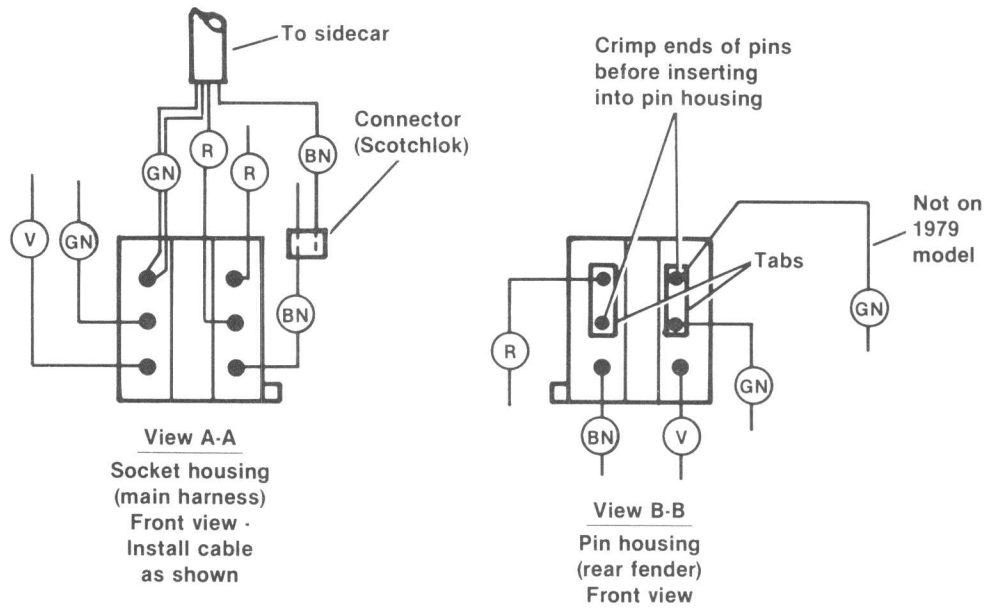

Figure 2-5. FLH Rear Light Connector with Sidecar Harness Connected
gain access to this connector, the seat and the battery must be removed. The connector is located under the seat next to the battery. Note that on 1984 models, only one pin terminal and commoning tab must be installed in the pin housing. Figure 2-5 shows the connector after the sidecar harness has been connected.
1. See Figure 2-5. Remove the two sidecar harness socket terminals from the socket housing using SOCKET TERMINAL TOOL, Part No. HD-97364-71.
4. Install new harness in same position as old harness and insert socket terminals into socket housing and reconnect sidecar directional light wire as shown in view A-A of Figure 2-5.
5. See view B-B, Figure 2-5. Pin housing connections must be as shown.